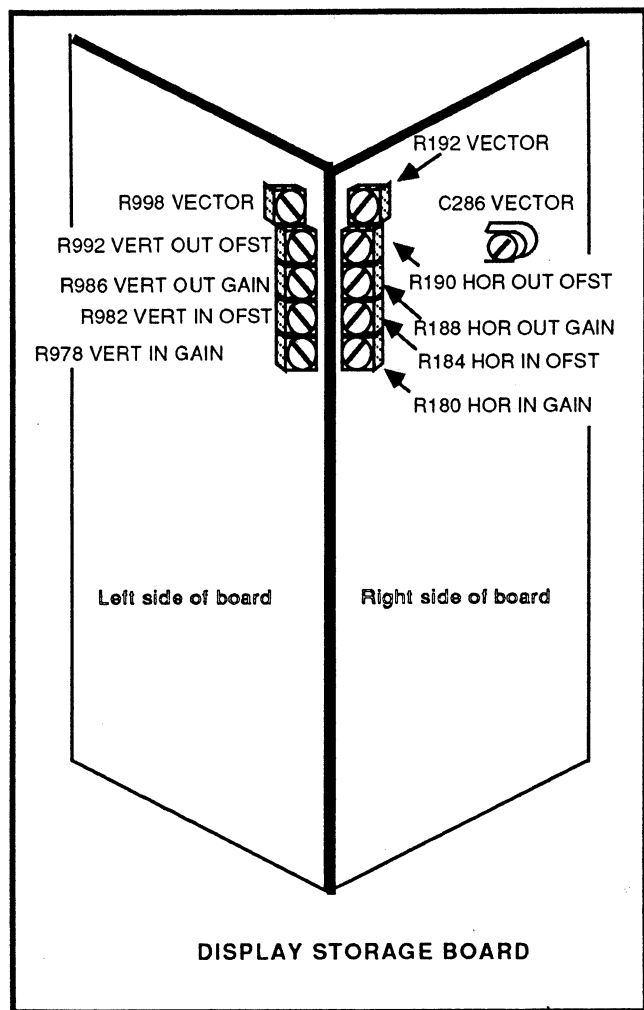

Figure 4-2. Display Storage board adjustment locations.
- b. Adjust R190 [Hoo (Horizontal Output Offset)] on the Display Storage board to position the center of the checkerboard pattern at center screen. See Figure 4-2.
b. Adjust (readjust) R190 [Hoo (Horizontal Output Offset)] on the Display Storage board to position the center of the checkerboard pattern at center screen. See Figure 4-2.
g. Press UTIL MENU six times to exit, then set FREQ SPAN/DIV to 100 MHz and set FREQUENCY to 100 MHz. Enable the calibrator signal by pressing INPUT MENU/#9 [CAL SIG @ 100MHZ -30DBM (ON)], and turn DISPLAY STORAGE on.